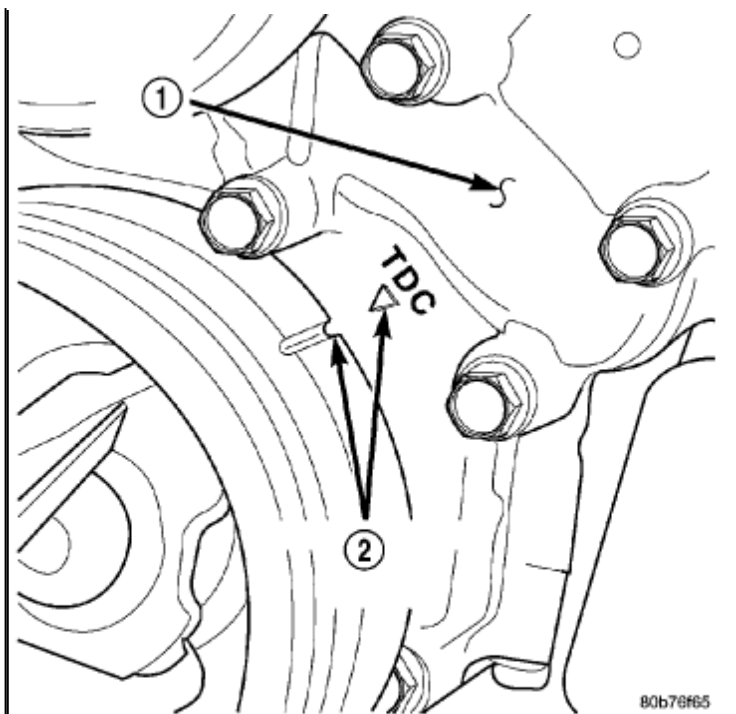
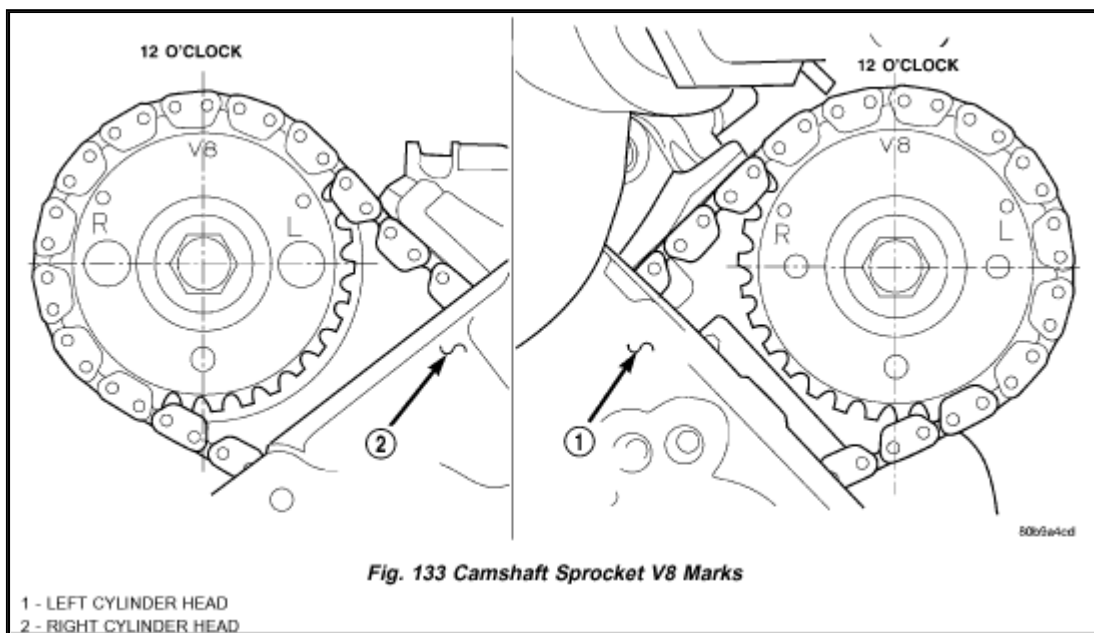

Fig. 132 Engine Top Dead Center (TDC) Indicator Mark
Fig. 133 Camshaft Sprocket V8 Marks
- on timing chain cover (Fig. 132) (# 1 cylinder exhaust stroke) and the camshaft sprocket "V8" marks are at the 12 o'clock position (Fig. 133).